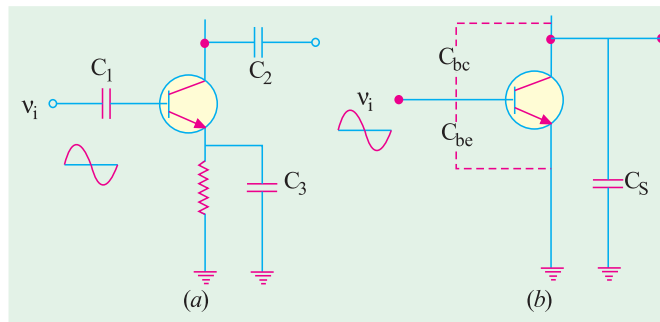

Fig. 60.44
2. internal or inter-element capacitances of the transistor [Fig. 60.44 (a)] and stray wiring capacitance [Fig. 60.44 (b)].
The coupling and bypass capacitors [C_1 , C_2 and C_3 in Fig. 60.44 (a)] are series-connected whereas interelement capacitances and stray capacitances are parallel-connected
[Fig. 60.44 (b)] to the signal path. At mid-frequencies, C_1 , C_2 and C_3 act almost as 'shorts' but C_{bc} and C_{be} act as 'open'. Hence, their effect on mid-frequencies is negligible.
When V_i is applied to the transistor's base in Fig. 60.44 (b), the change in collector voltage is